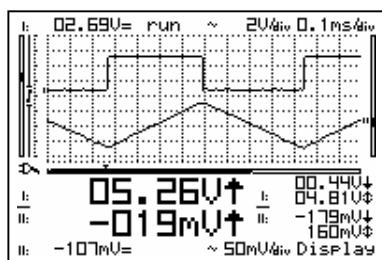

Fig 15
- A **full grid** divides the screen into reference lines. (**Fig. 15**)